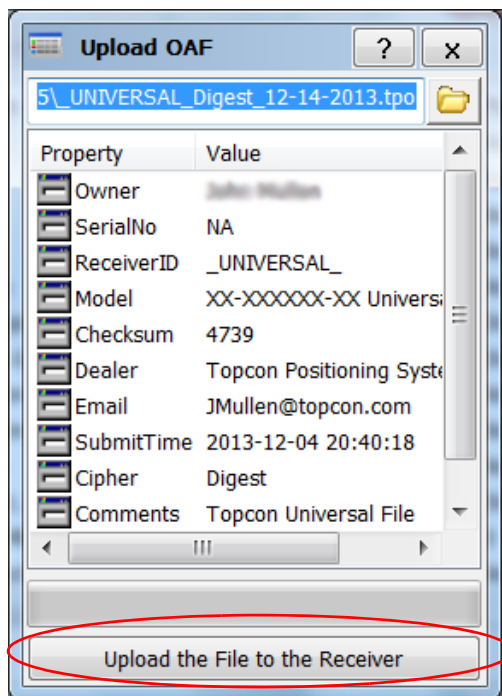

Figure 52: Upload the OAF to the Receiver
- Click **Upload the File to the Receiver** to start loading the file (Figure 52).